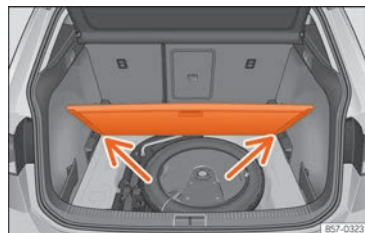

Fig. 169 Variable boot floor: tilted position.
- Rest the floor on its housings >>> Fig. 169 (arrows).